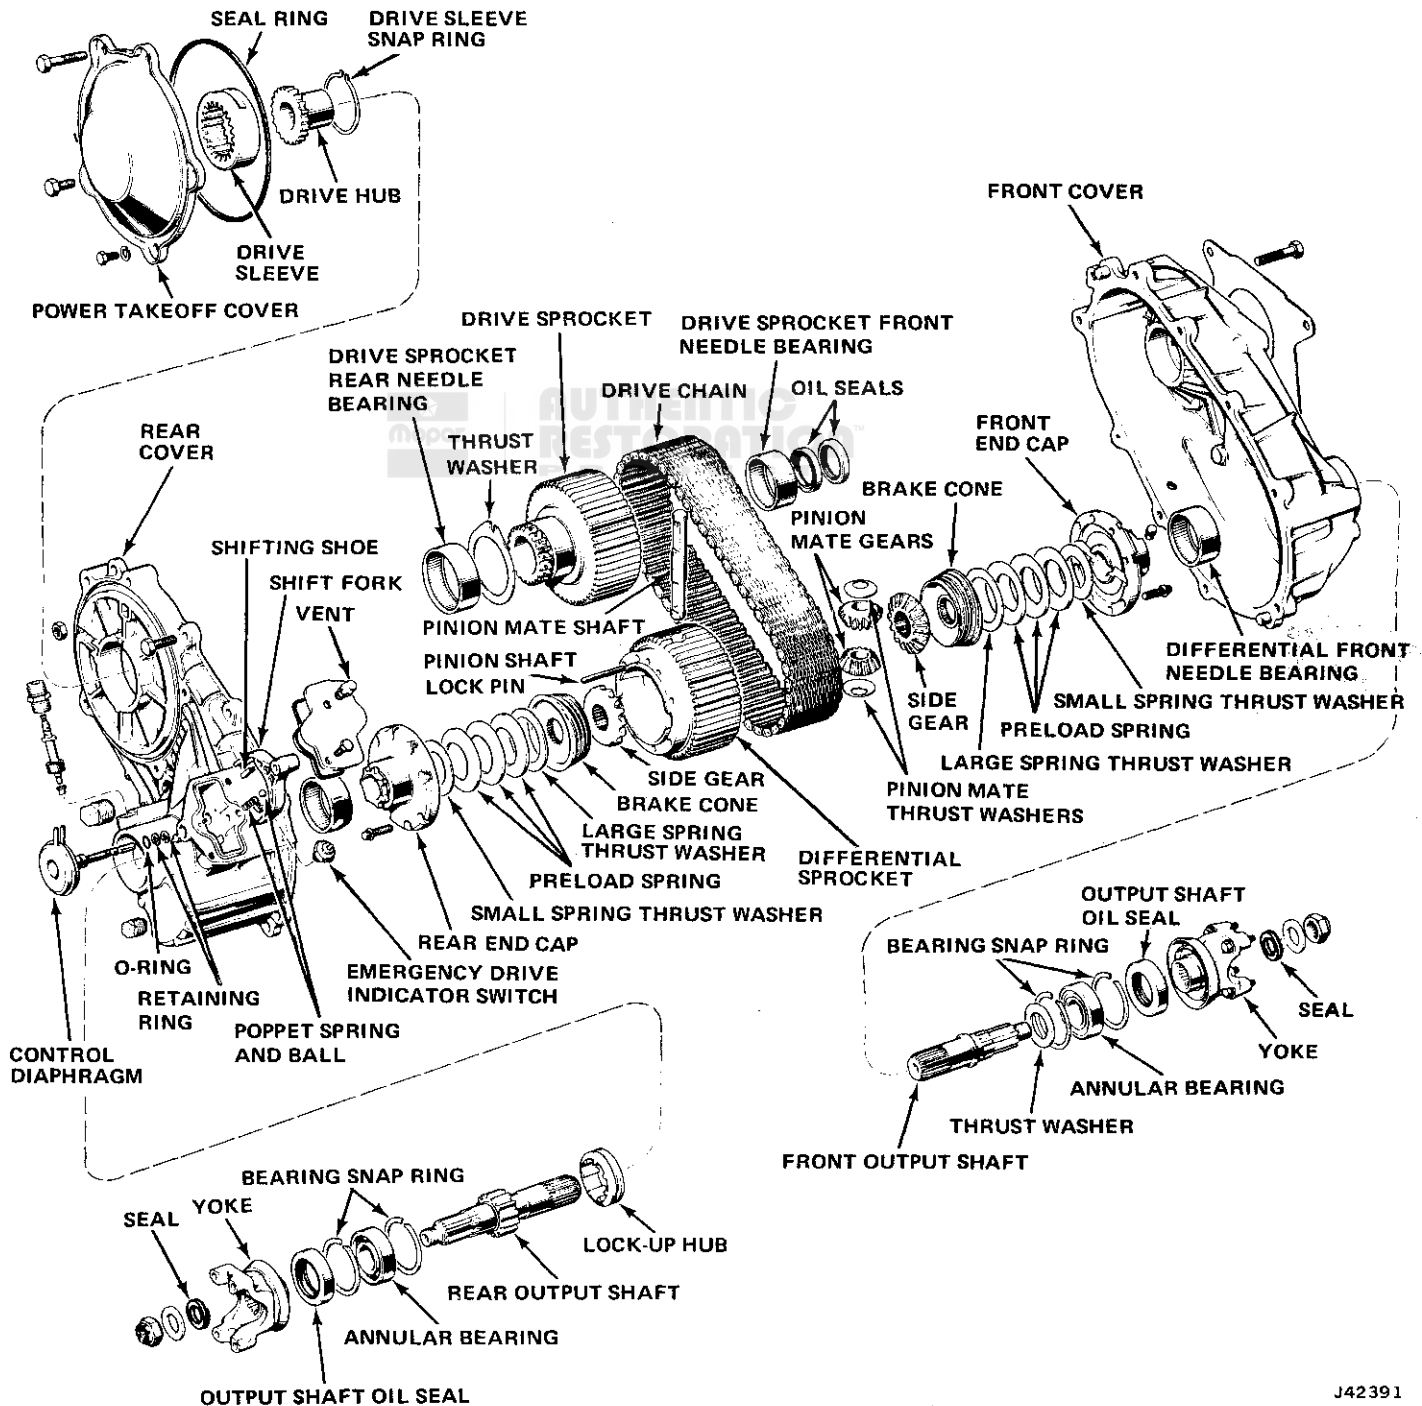

Fig. 2D-43 Quadra-Trac Transfer Case Components
- (1) Remove rear output shaft yoke using tools J-8614-01, J-8614-02, and J-8614-03 (fig. 2D-9).
- (2) If not equipped with reduction unit, remove power takeoff cover and seal ring (fig. 2D-43).
(3) Position rear cover assembly so differential sprocket is resting on workbench and drive sprocket is resting on wood block that is 2 X 4 X 6 inches (5.08 X 10.16 X 15.24 cm) long (fig. 2D-44).
(4) If not equipped with reduction unit, expand drive sleeve internal snap ring and remove drive hub and sleeve from drive sprocket rear splines.
(5) If equipped with reduction unit, remove pinion cage snap ring and carrier.
(6) Lift rear cover upward and off drive and differential sprockets.
(7) Slide drive sprocket toward differential sprocket and remove drive chain from sprockets.
(8) Remove sealer from front and rear cover mating surfaces using a razor blade or gasket scraper with sharp blade.
(9) Clean all components thoroughly with solvent and dry using compressed air or clean shop cloths.
(10) Inspect components for wear or damage and replace as necessary.